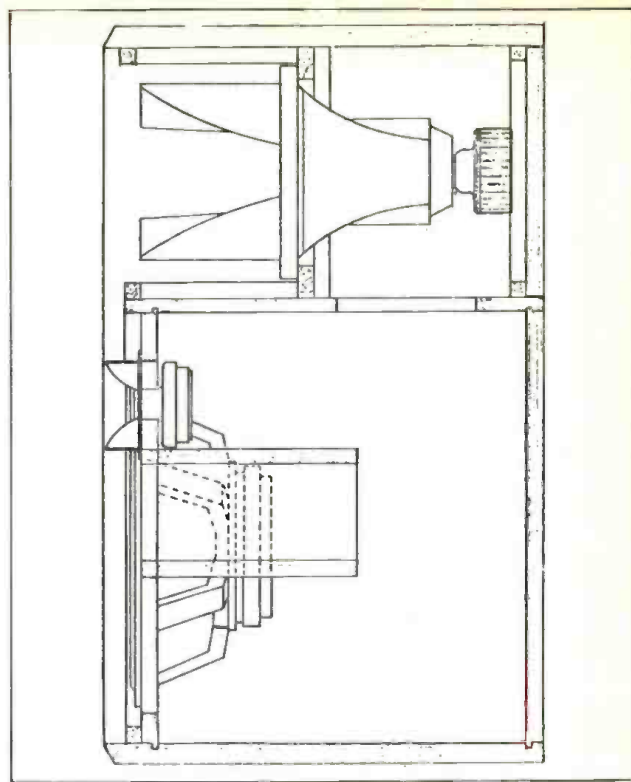

Figure 4. Electro-Voice Sentry III monitor system. Sensitivity is 97 dB, 1 watt at 1 meter (E-V data).
shown in FIGURE 4. Their market penetration into broadcasting, by way of their extensive microphone line, helped them become a major supplier of smaller monitors to that industry.
Figure 4. Reactive Loading (RL) is defined so that it is a relative measure of current at output voltage equals zero, required to drive a reactive load to an appreciable output. Quite by coincidence, it plots as straight lines in the plane of complex impedance, used by some to characterize loudspeaker impedance.